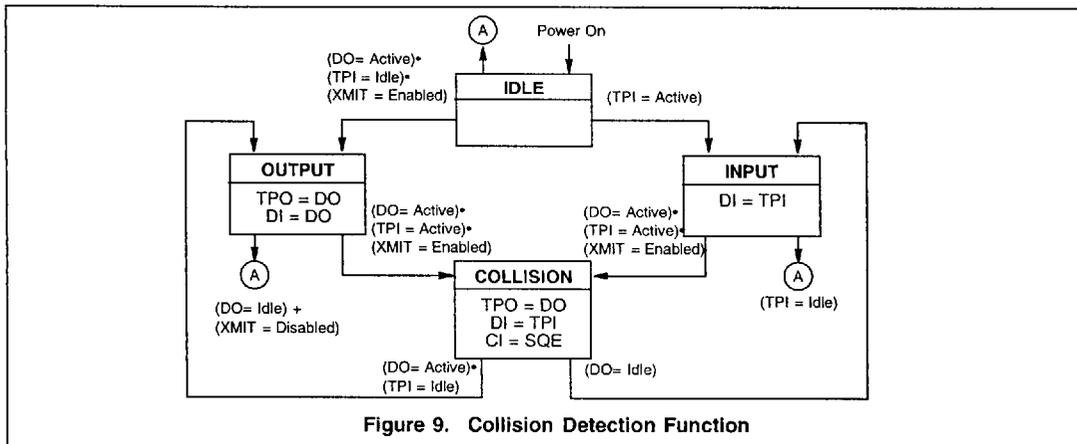

Figure 9. Collision Detection Function
simultaneous presence of valid signals on both the TPI circuit and the TPO circuit. The MB86961(A) reports collisions to the back-end via the COL pin. If the TPI circuit becomes active while there is activity on the TPO circuit, the TPI data is passed to the back-end over the RXD circuit, disabling normal loopback. Figure 9 is a state diagram of the MB86961(A) collision detection function. Refer to Electrical Characteristics for collision detection and COL/CI output timing.